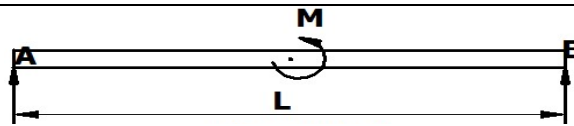

Figure 21
11. Draw the SFD & BMD for the overhanging beam shown in *Figure 21*. Indicate all significant values including point of contra-flexure.